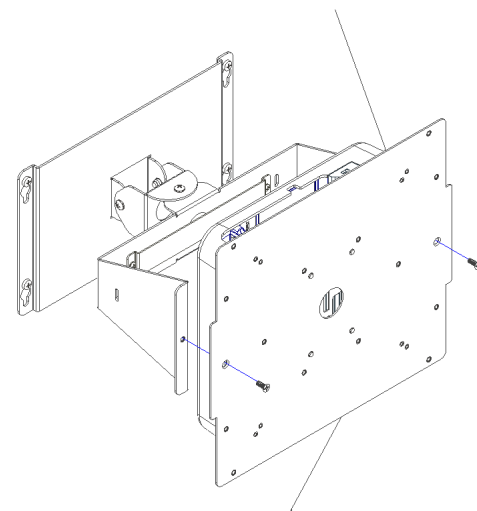

Figure 3
**Step 3** – Attach the Antenna Mounting Plate faced out with the two included #8-32 x 7/16" flat head screws (Figure 3).